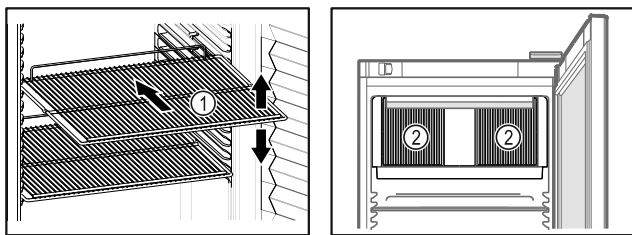

Fig. 61 Example illustration Fig. 62
- ❑ If storage surfaces Fig. 61 (1) are movable, adjust them according to height.